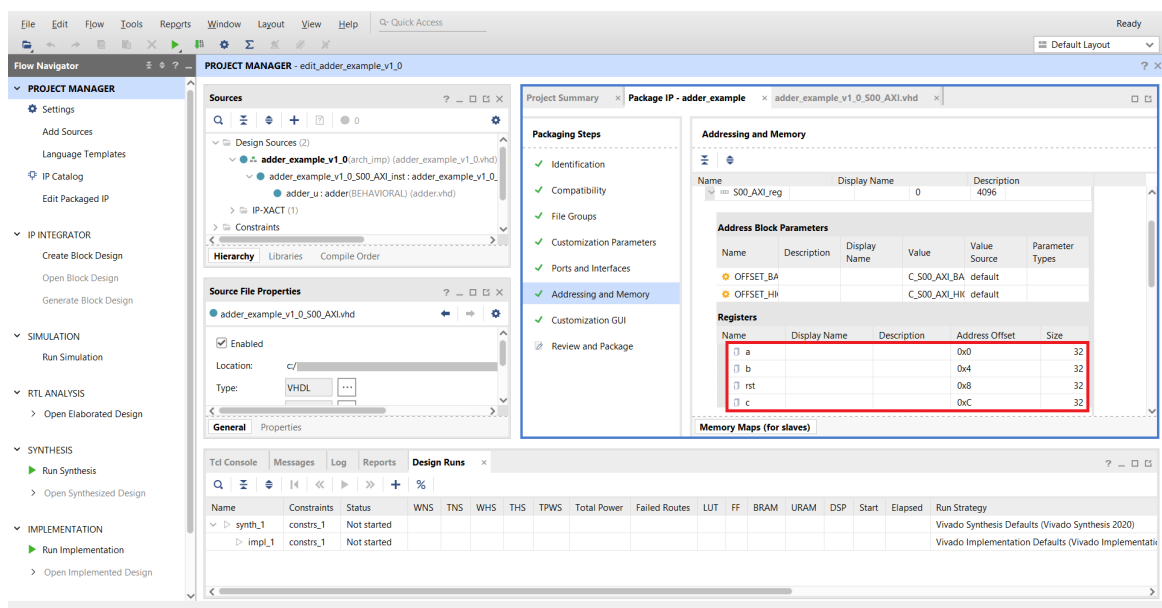

Figure 22: Final configuration of addressing for the AXI4 peripheral registers
- While done for every register, the final configuration should be the same as the one shown on Figure 22